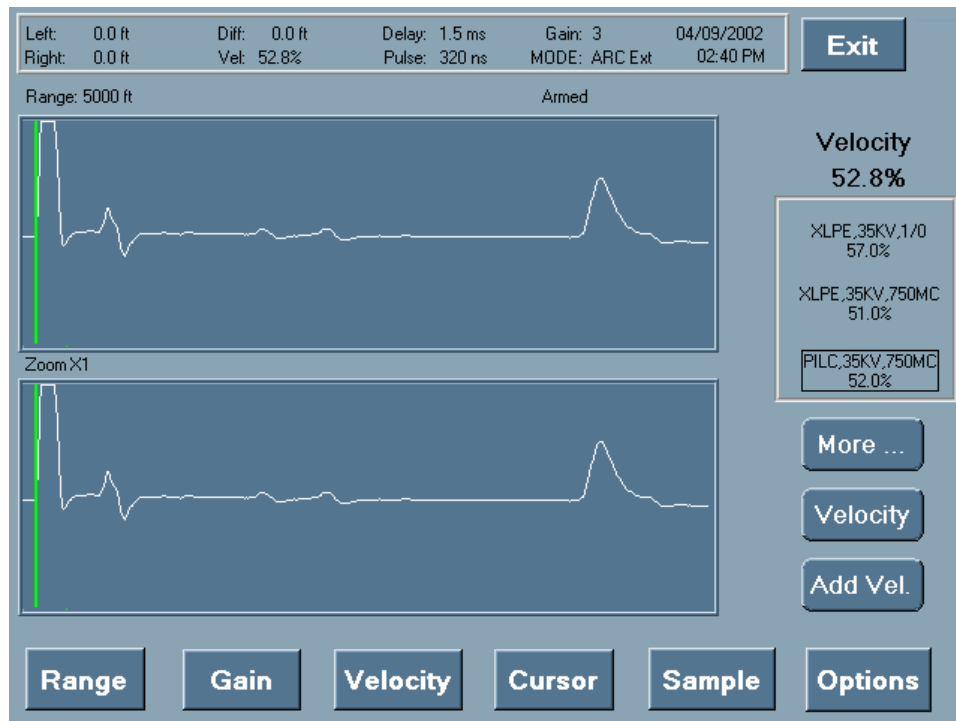

Figure 6-21 Velocity Table screen
- To open a window showing cable descriptions and their corresponding velocities (Figure 6-21), press **Table**.
Use the Modify Velocity Table screen (Figure 6-22) to add or delete cable descriptions and their corresponding velocities to the selections shown in the Velocity Table Screen (Figure 6-21).
- To cancel the add or delete request and return to the Velocity Table screen (Figure 6-21), press **Delete**.